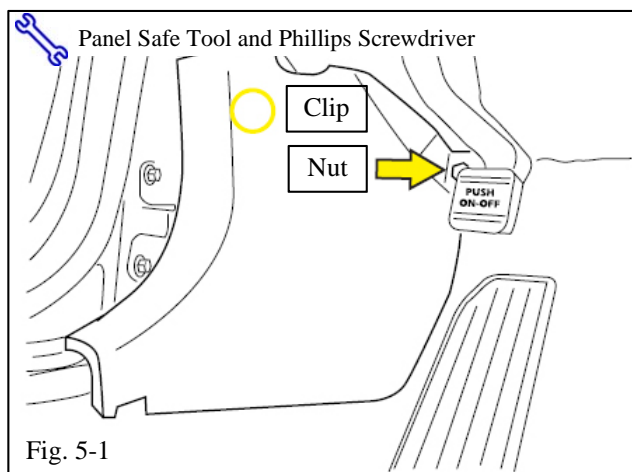

Fig. 5-1
- (a) Remove the plastic nut by hand; if needed use a Philips screwdriver (Fig. 5-1).
- (b) Use a panel safe tool to remove the panel (Fig. 5-1).